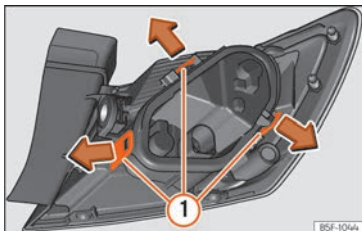

Fig. 64 Retaining tabs on reverse side of tail light.
- Remove the bulb holder »» Fig. 64 unlocking the retaining tabs ①.